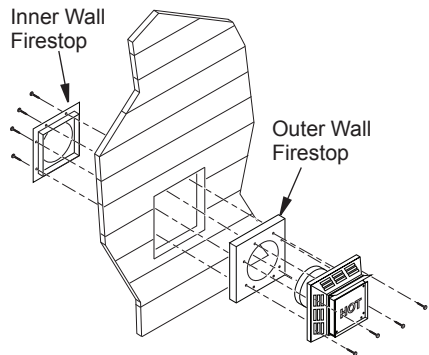

Figure 15 - Installing Outer Wall Firestop (Combustible Exterior Wall)
7. **Connecting Vent Cap with Horizontal Vent Pipe:** Fit outer and inner wall firestop into wall before connecting horizontal run to vent cap (see Figure 15).